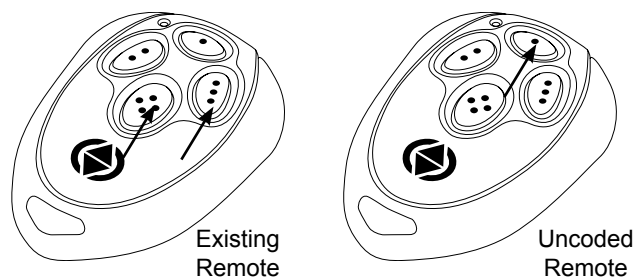

Fig. 7
- 2 Press any button on new transmitter twice. (Fig 7)